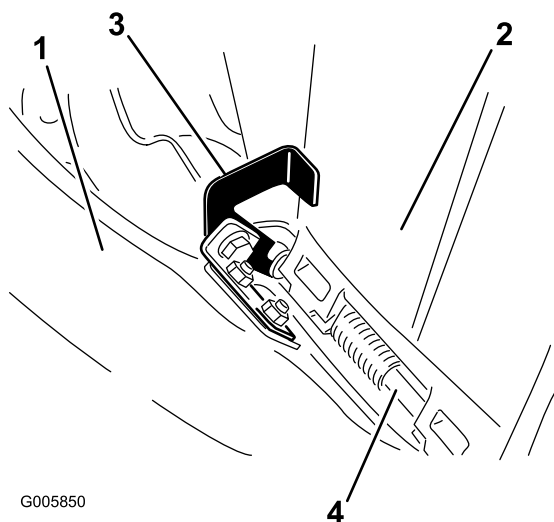

Figure 23
- On the top of the chute, engage the hook shaped latch around pivot rod of the deflector assembly as shown in (Figure 23).